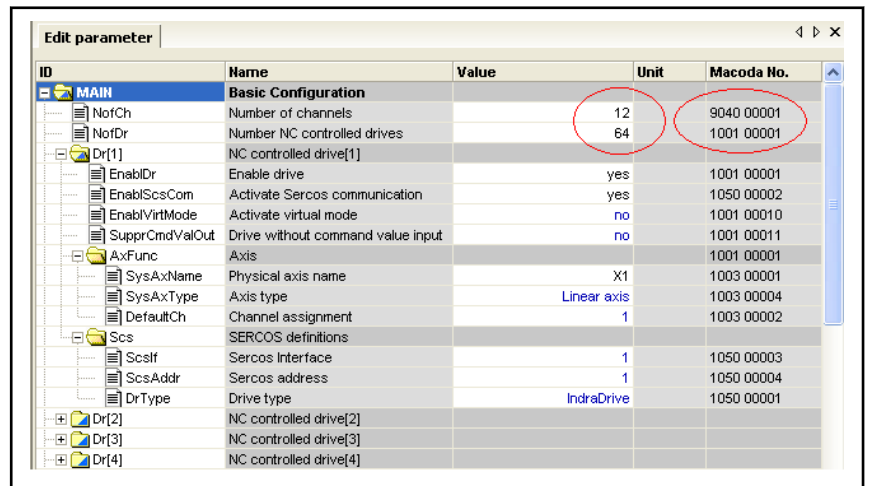

Fig. 5-193: Setting the number of channels and axes
- To set the number of channels/axes, modify the entry accordingly (see fig. 5-193 "Setting the number of channels and axes" on page 333). The channels and axes are automatically created by the system.